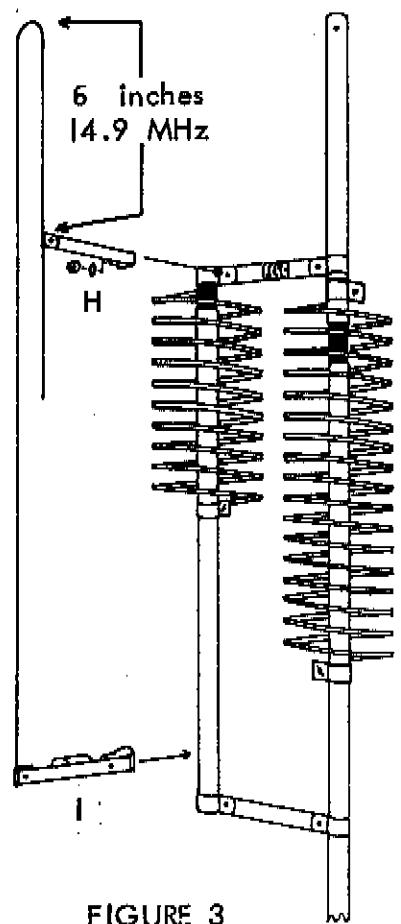

FIGURE 3
6. Take up the assembled 7.6 MHz coil an capacitor unit (D) and slide the end of tube E that has the plastic insulator up through the lower coil clamp and into the upper coil clamp of the assembly. Use a split-lock washer and #10 hex nut to fasten the upper clamp securely around the plastic insulator. The upper edge of the coil clamp should be flush with the edge of the plastic insulator. Use a split-lock washer and a wing nut to secure the lower coil clamp around the metal part of section E--not too tightly, however, for this clamp too may have to be moved during the adjustment procedure.
7. Place the remaining clamp of the completed 7.6 MHz assembly around section B immediately above the upper clamp of the 4.6 MHz coil (C) and secure firmly using a split-lock washer and a #10 hex nut.
10. Refer to figure 3 and slide tuning rod G through clamp H and double clamp and capacitor unit I as shown. Finger tighten each clamp using the hardware already on the small end of the double clamp and an assembled #8 split-lock washer and hex nut for the large end of the double clamp to position unit I around tube E. Place the hole at the end of clamp H over the #10 bolt coming through the upper coil clamp of the 7.6 MHz unit and secure using a #10 split-lock washer and hex nut.